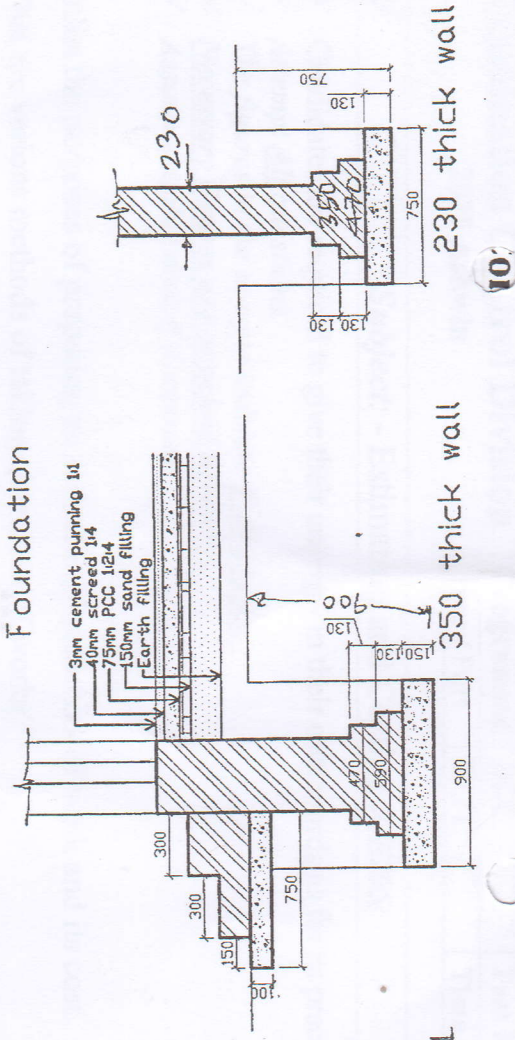

Fig:1
9. Prepare detailed estimate of the following items of work for a building from the attached Fig.1. [4×3]
8. Find the quantity of the following from attached drawing. (fig. 1) [3x4]